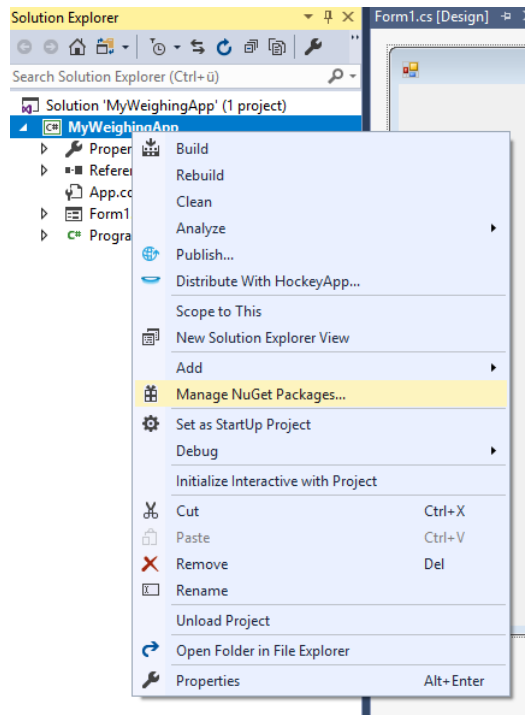

Figure 3.3: Drop-down menu in Visual Studio Solution Explorer
- Right click on the MyWeighingApp solution in the Visual Studio Project Explorer, then click on „Manage NuGet Packages...” in the drop-down menu as shown in Figure 3.3.